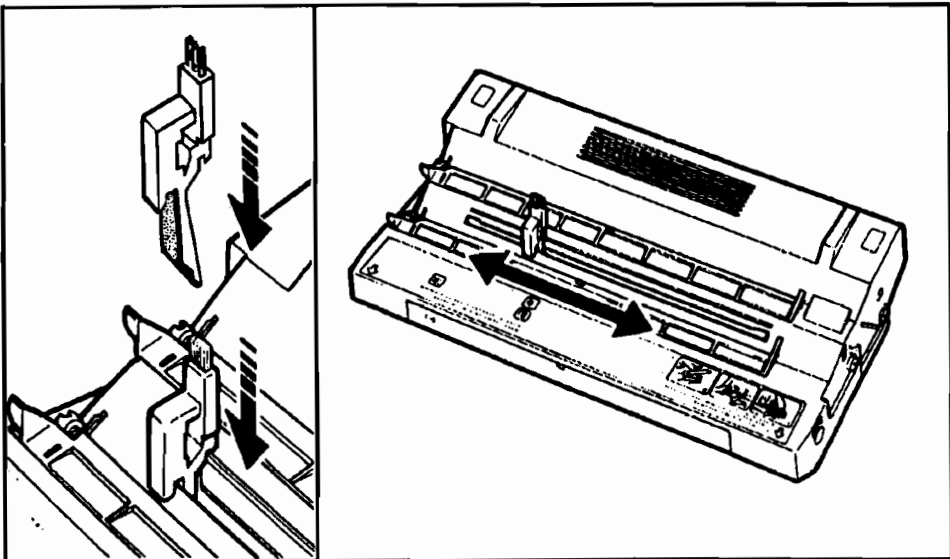

Figure 4-9. Cleaning the Primary Corona Wire in the EP-S Cartridge
3. Insert the felt-tipped end of the brush in one end of the EP-S cartridge slot, as shown in Figure 4-9. (The brush will fit only one way. Look carefully at Figure 4-9 for the correct way to position the cleaning brush.)